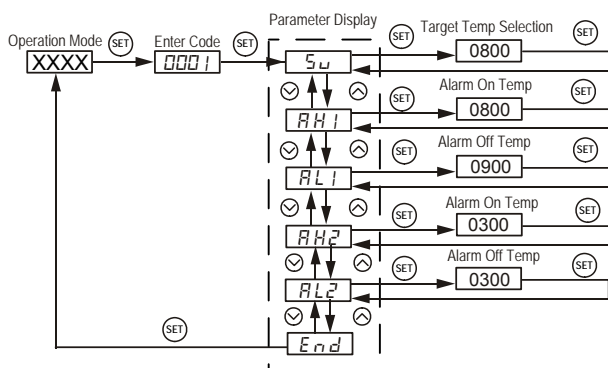

Figure 5. Flow chart for how to set target temperature and alarm
The temperature and alarm parameters are listed in table 4. To change the parameters, press **SET**, enter code "0001", press **SET** again. Figure 5 is the parameter flow chart.
b. Follow the flow chart shown in Figure 5. This method is easier for large temperature change. If no key is pressed after confirmation of SV, the controller will return to normal operation mode automatically in 1 minute.